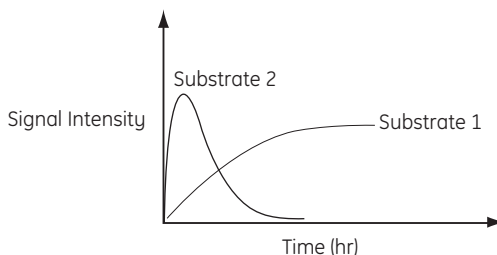

Fig 10-1. How signal intensity of a substrate and time affect the scan.
- **Substrate**—You should test several substrates and evaluate which substrate emits light for the length of time required for the Typhoon instrument to scan the sample. If the signal intensity of the substrate diminishes significantly before the instrument completes the scan, you might not be able to perform accurate quantitation on the last part of the sample scanned by the instrument (fig 10-1).